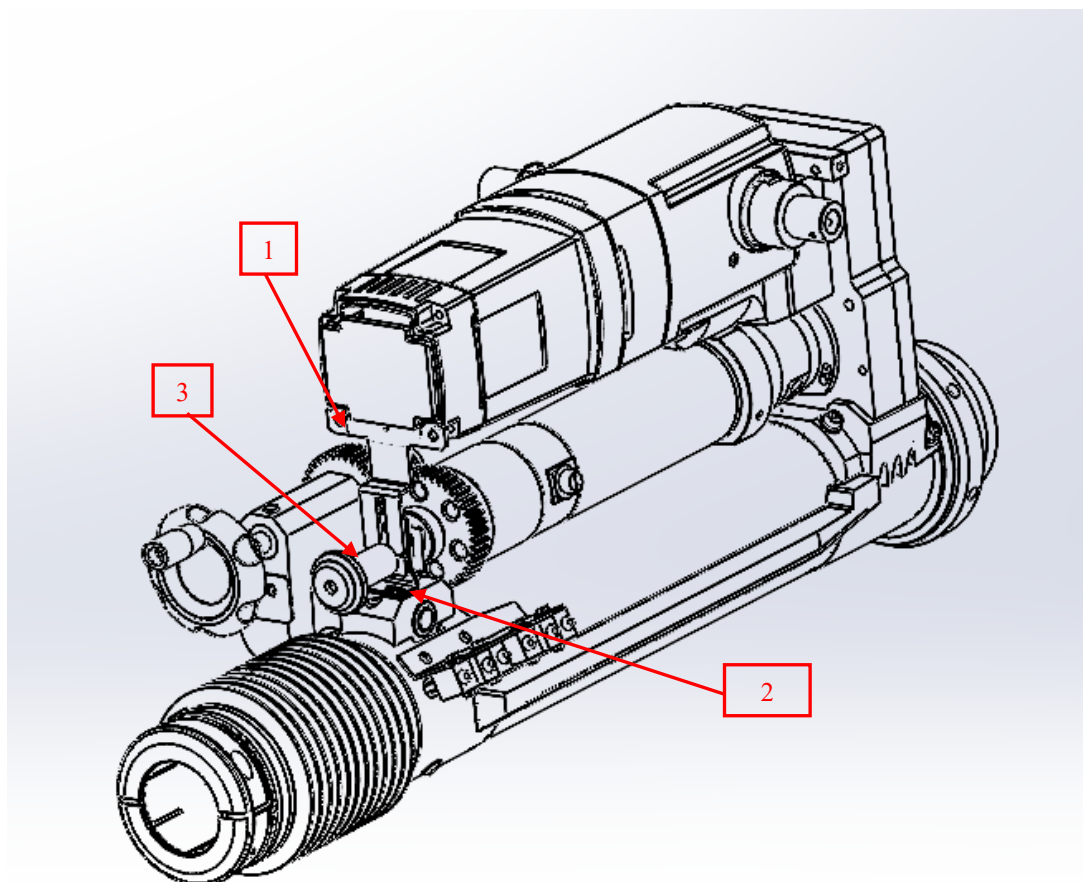

Figure 5.8
- 5.2.1 Proceed to remove the motor protection cover, unscrewing the four screws shown in figure 5.8 – position 1 and the 2 anchor screws as shown in figure 5.8 – position 2 and remove the COE01016 in position 3 – figure 5.8;